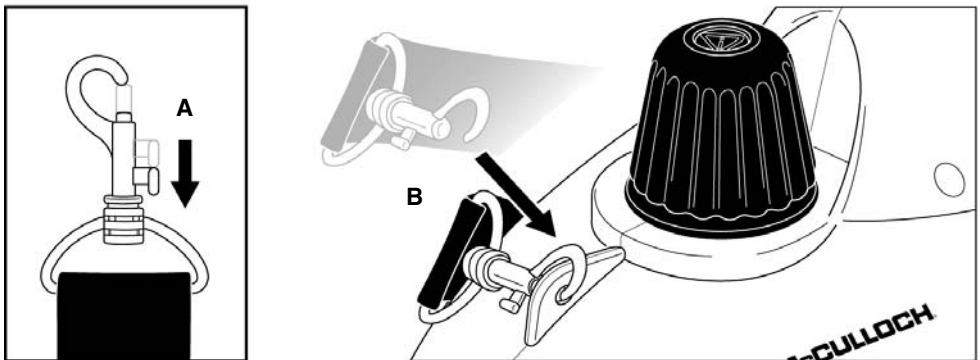

FIGURE 6
1. Grasp hook on one end of Shoulder Strap. Press down and hold lock to open hook (FIGURE 6-A).
2. Slide hook through hole of front Strap Tab, then release lock to close hook (FIGURE 6-B).